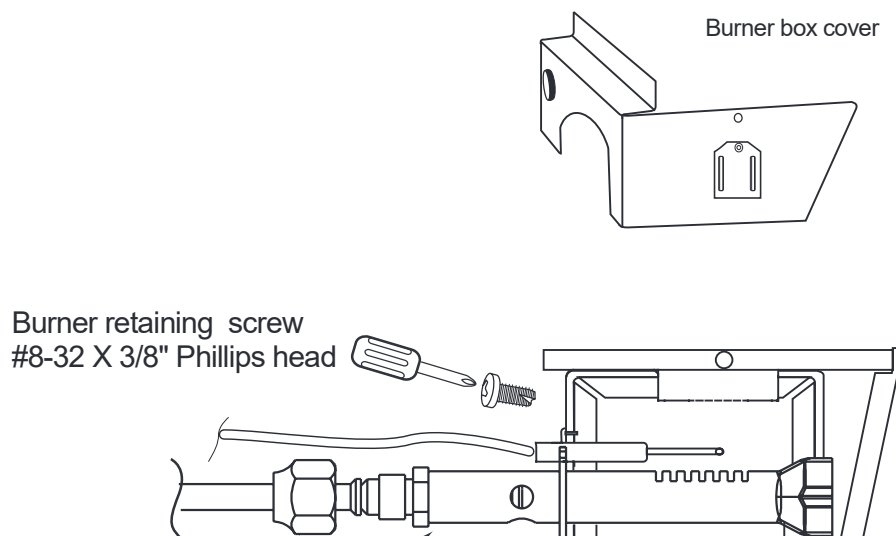

Figure 5-7. —Installing burner in burner box
12. Insert the burner into the burner box, then install the #8/32 x 3/8" Phillips retaining screw. See Figure 5-7.